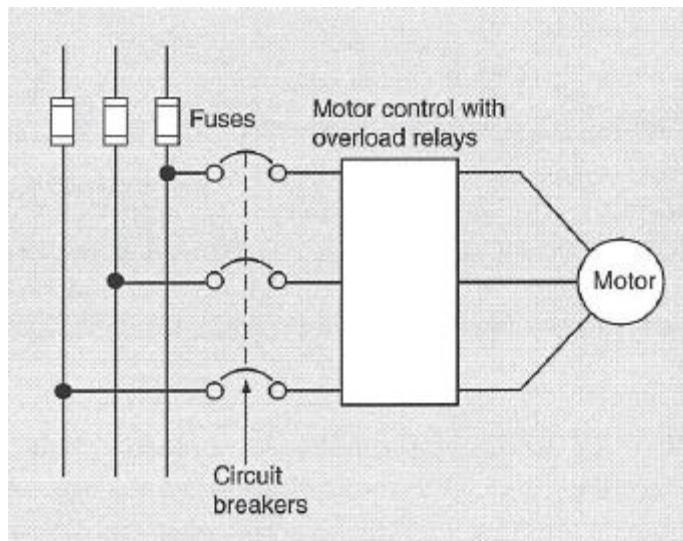

Figure 6.3: Branch-Circuit Protection
- 6-15 A *branch circuit* is the portion of a wiring system that extends from the final overcurrent device to the outlet. A device not approved for branch-circuit protection, a thermal cutout or a motor overload protective device, for example, is not considered to be an overcurrent device protecting the circuit. Figure 6.3 is a simple diagram of a branch circuit. The circuit breakers are the final overcurrent devices protecting the circuit. The motor control box has overload relays for motor protection, but they are not overload protective devices for the branch circuit. The overload relays protect the motor only.